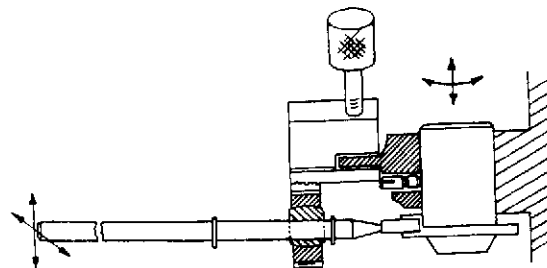

Figure 4-22. FOCUSING SOUND OPTICS CARTRIDGE.
- a. Use Tool T-43680-G1-G by attaching Ring portion to Cartridge and clamping Adjusting Rod portion to Lamphouse Platform of Main Casting (Figure 4-22). Focus Optics by moving Adjusting Rod up or down or Back and Forth to achieve Requirements of Step 3 above.